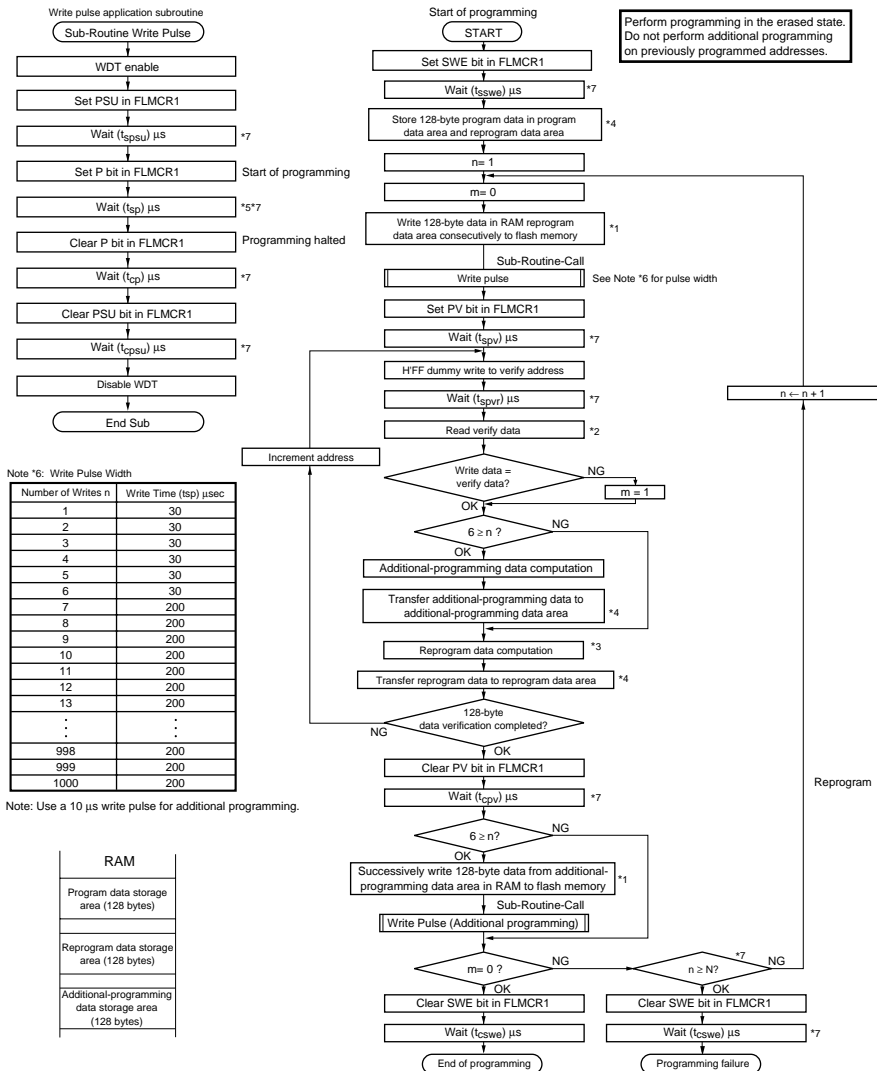

Figure 18.11 Program/Program-Verify Flowchart (128-Byte Programming)
When writing data or programs to flash memory, the program/program-verify flowchart shown in figure 18.11 should be followed. Performing programming operations according to this flowchart will enable data or programs to be written to flash memory without subjecting the device to voltage stress or sacrificing program data reliability. Programming should be carried out 128 bytes at a time.
After the elapse of the given programming time, clear the P bit in FLMCR1, then wait for at least (t_{cp}) μ s before clearing the PSU bit to exit program mode. After exiting program mode, the watchdog timer setting is also cleared. The operating mode is then switched to program-verify mode by setting the PV bit in FLMCR1. Before reading in program-verify mode, a dummy write of H'FF data should be made to the addresses to be read. The dummy write should be executed after the elapse of (t_{spv}) μ s or more. When the flash memory is read in this state (verify data is read in 16-bit units), the data at the latched address is read. Wait at least (t_{spvr}) μ s after the dummy write before performing this read operation. Next, the originally written data is compared with the verify data, and reprogram data is computed (see figure 18.11) and transferred to RAM. After verification of 128 bytes of data has been completed, exit program-verify mode, wait for at least (t_{cpv}) μ s, then clear the SWE bit in FLMCR1. If reprogramming is necessary, set program mode again, and repeat the program/program-verify sequence as before. The maximum number of repetitions of the program/program-verify sequence is indicated by the maximum programming count (N). Leave a wait time of at least (t_{cswc}) μ s after clearing SWE.
6. The program/program-verify flowchart for the H8/3024F-ZTAT version is shown in figure 18.11.